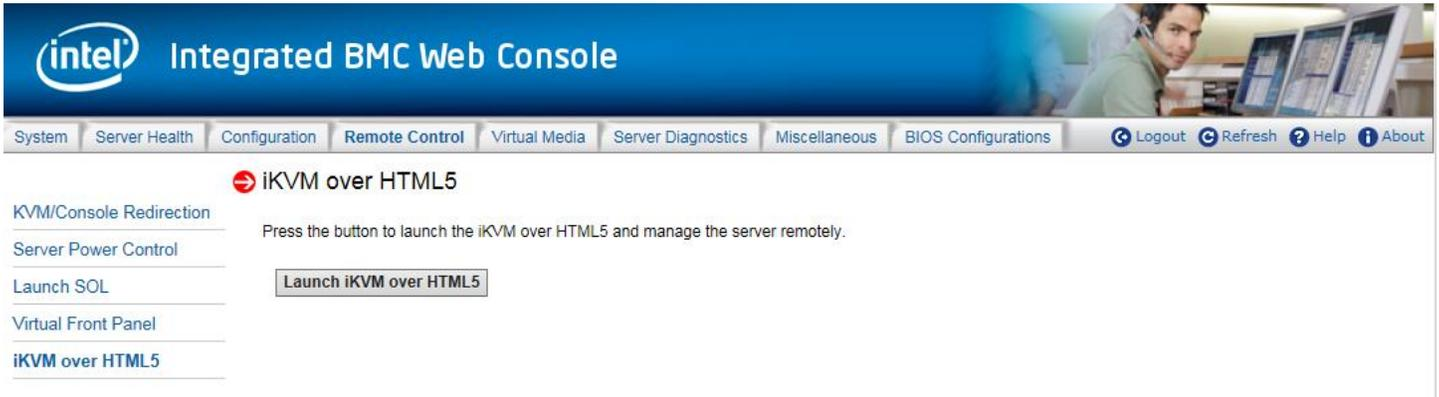

Figure 79. iKVM over HTML5 Page
**Note:** A Remote Management Module add-in card is required in the remote system, otherwise the launch button is grayed-out. See Figure 79 or Figure 80 for more details.